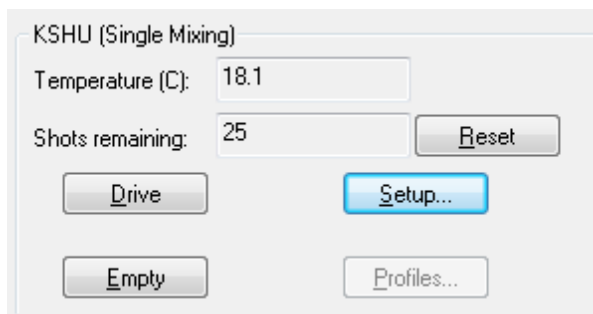

Figure 2-18: the KSHU panel for fluorescence kinetics
5) Samples may now be loaded in the drive syringes. Ensure that the drive valves are in the 'drive' position and click the **Drive** button on the **KSHU** panel (Figure 2-18) to push sample through the system without collecting data. Click the **Drive** button five times so that the samples will have reached the observation cell.